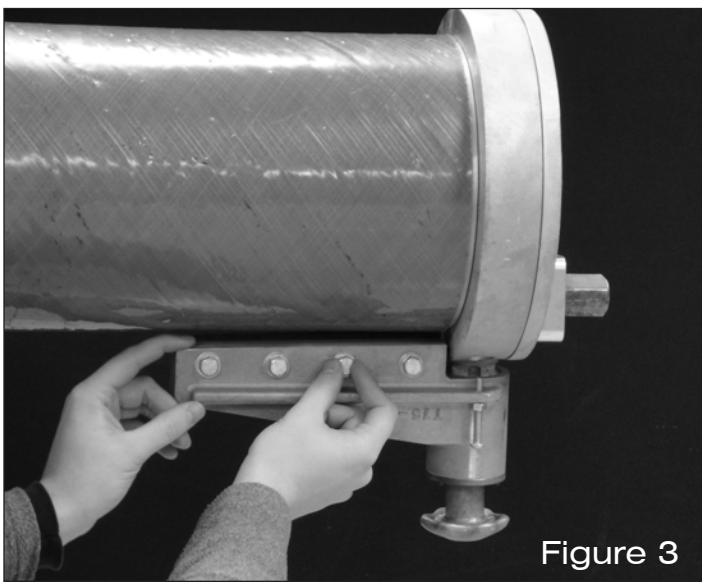

Figure 3
4. Mount the blade holder with the four bolts with washers, but do not tighten, yet. (See Fig. 3.)